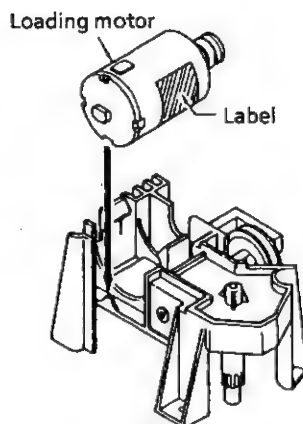

Figure 1-71.
1. Remove the loading motor, and mount a new loading motor as in Figure 1-71.
2. Place the loading motor so that its label is visible as shown in Figure 1-71. Make sure that the screw hole at the motor shaft, protuberance on the loading block, and the motor's back end marked with the arrow are mated with each other.